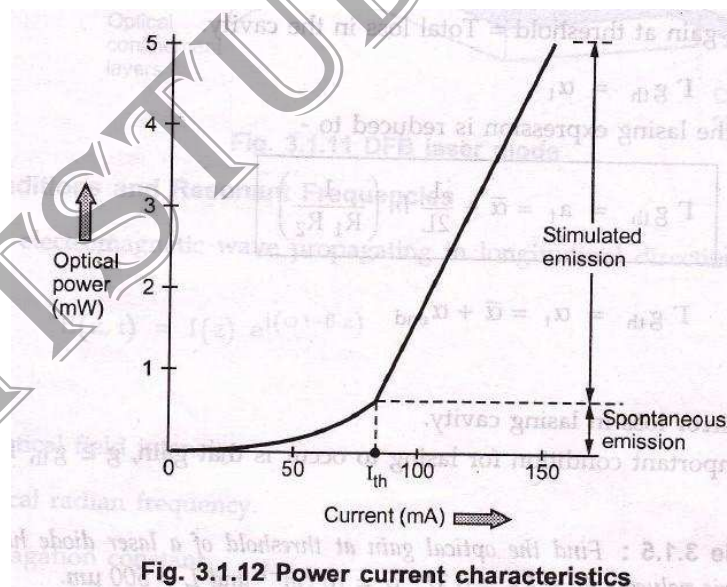

Fig. 3.1.12 Power current characteristics
- x The output optic power versus forward input current characteristics is plotted in Fig. 3.1.12 for a typical laser diode. Below the threshold current ( $I_{th}$ ) only spontaneous emission is emitted hence there is small increase in optic power with drive current. At threshold when lasing conditions are satisfied. The optical power increases sharply after the lasing threshold because of stimulated emission.